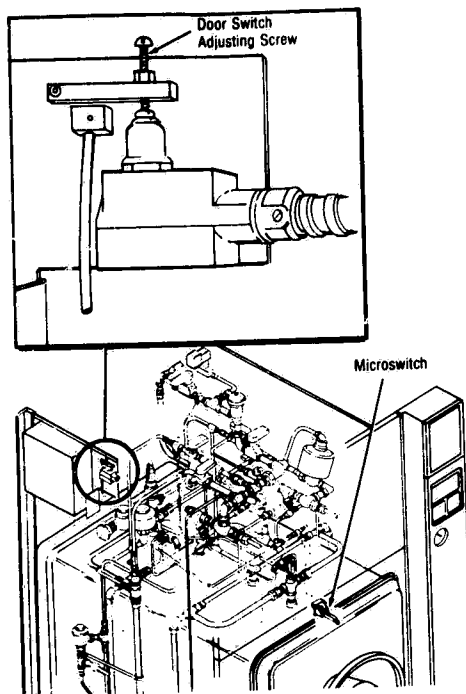

Figure 5-3. DOOR SWITCH ADJUSTMENT.
2. If DOOR UNLOCKED light fails to go out, use the following procedure to adjust the door switch. See Figure 5-3.
b. Open door and reclose it to the same amount of torque used in step (1) to verify door switch actuates and DOOR UNLOCKED light goes out.